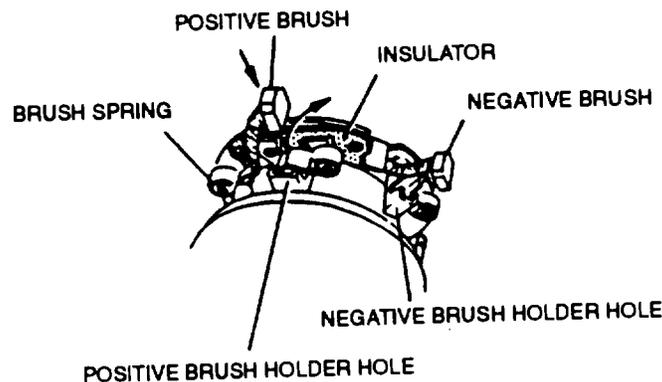

FIGURE 3-39. Installing Brushes
- c. Apply general purpose grease (630AA) to retainer (20), rollers (21), overrunning clutch (17), steel ball (18), spring (23), and bearings (34 and 35).
- d. Install washer (22) and spring (23) in magnetic switch assembly (24).
- e. Install five rollers (21), retainer (20), and starter pinion (19) in housing (16).
- f. Place steel ball.(18) in overrunning clutch (17) and install both in housing (16).
- g. Position assembled housing (16) on magnetic switch assembly and secure with three screws (15). Tighten screws 5.1 to 8.7 ft-lbs (6.9 to 11.8 Nm).
- h. Install armature (14) in magnetic switch assembly (24).
- i. Position brush holder (13). Lift springs and install brushes, refer to FIGURE 3-39. Ensure negative brushes (connected to brush holder) are installed in negative holes (not insulated) and positive brushes (connected to yoke) are installed in positive holes (separated from plate with insulator). Ensure positive brush leads are not grounded.